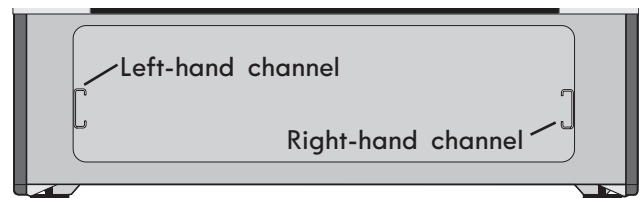

Figure 51: Channel alignment
2. Carefully line up both sides of the warmer drawer glide rails to the outer compartment glide channels located inside the empty warmer drawer compartment (See Figure 51).